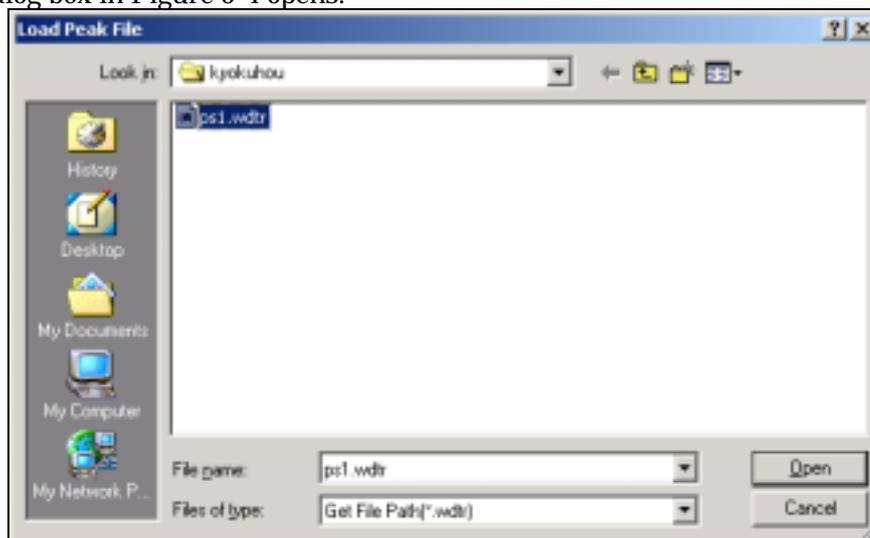

Figure 5-4. "Load Peak Table" dialog box
1. The dialog box in Figure 5-4 opens.